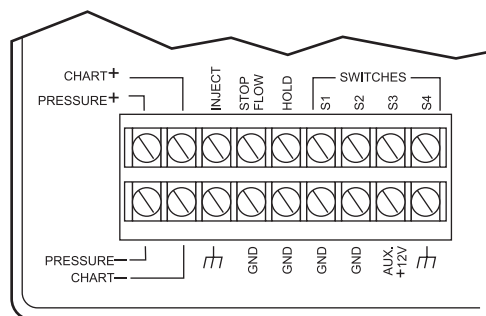

Figure 5-2 600 Controller Screw Terminals
- Jumper wire to short various 600 controller rear panel terminals (Figure 5-2) to a ground screw terminal
1. Attach a jumper wire from the Stop Flow terminal to the Gnd terminal on the 600 controller rear panel (see Figure 5-2).
1. Attach a jumper wire from the Inject terminal to the Gnd terminal on the 600 controller rear panel (see Figure 5-2).
1. Attach a jumper wire from the S1 terminal to the Inject terminal on the 600 controller rear panel (see Figure 5-2).
1. Attach a jumper wire from the Hold terminal to the Gnd terminal on the 600 controller rear panel (see Figure 5-2).